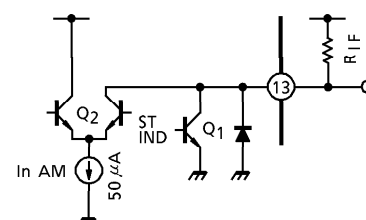

Fig.5 Internal circuit of pin⑬
- The terminal of pin⑬ is built in stereo indicator function and modulated AM IF signal output. In AM mode, R_{IF} ($3k\Omega$ or less) should be connected between V_{CC} and pin⑬, or pin⑬ should connected to V_{CC} directly. (Fig.5) In case that $R_{IF} > 3k\Omega$ or pin⑬ is opened, this IC doesn't operate normally in AM mode. Because transistor Q_2 is saturated.